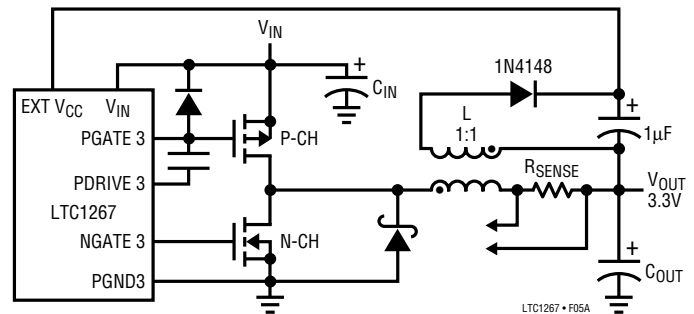
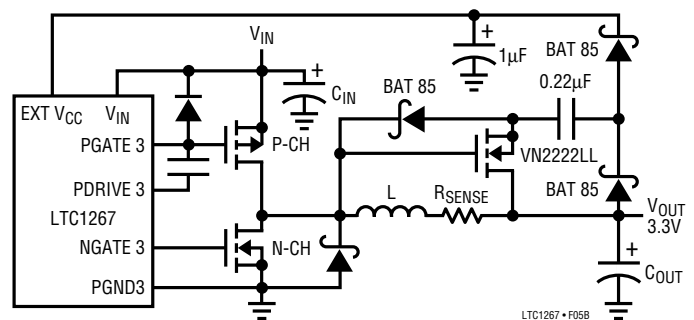

Figure 5a. Inductive Boost Circuit for EXT V_{CC}
Figure 5b. Capacitive Charge Pump for EXT V_{CC}
3. EXT V_{CC} connected to an output-derived boost network. For 3.3V and other low voltage regulators, efficiency gains can still be realized by connecting EXT V_{CC} to an output-derived voltage which has been boosted to greater than 4.5V. This can be done either with the inductive boost winding shown in Figure 5a or the capacitive charge pump shown in Figure 5b. The charge pump has the advantage of simple magnetics and generally provides the highest efficiency at the expense of a slightly higher parts count.